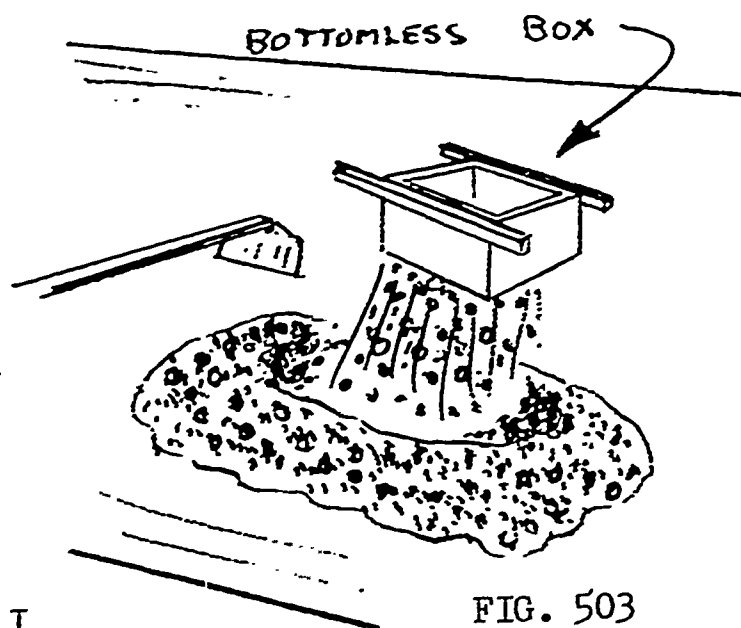

FIG. 503
2. Mix dry ingredients thoroughly on a large flat container. See figure 503.